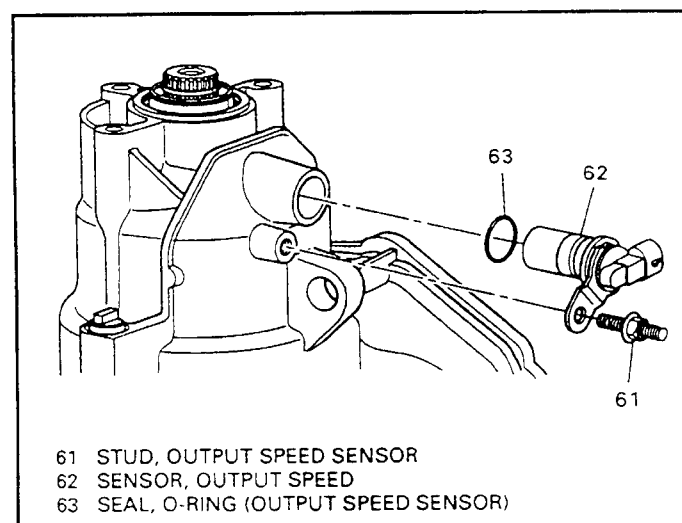

Figure 189
3. Install a new "O" ring seal on the output speed sensor as shown in Figure 189.
4. Install the speed sensor into the transaxle case using a small amount of "Trans-Jel" in the case bore (See Figure 189).
5. Install the speed sensor stud and torque stud to 9 ft.lb. (See Figure 189).